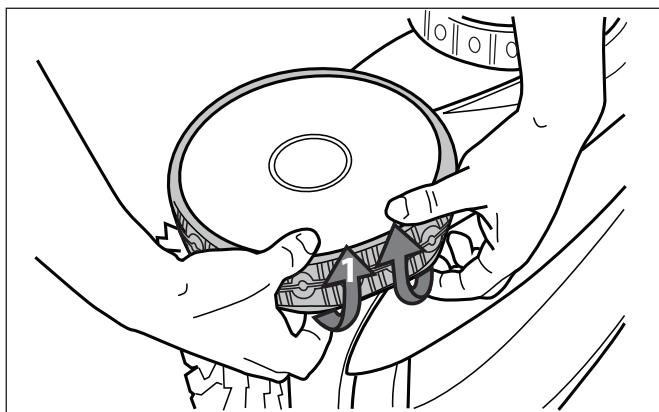

Figure 33. Pull the Old Tire Over the Wheel
1. Pull on the inside of the old tire to remove the tire lip from the wheel (Figure 33).